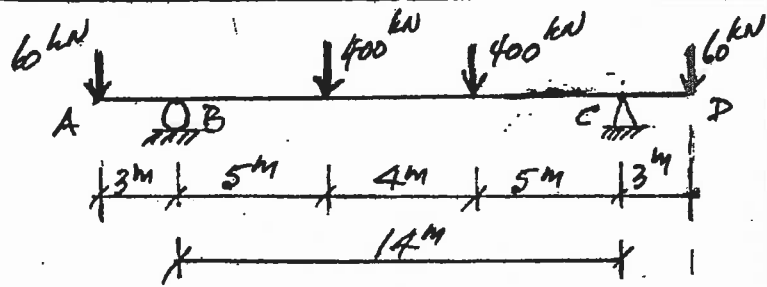

FIGURE 2
4. (a) Design a rectangular cross-section for the prestressed concrete girder in Figure 2.